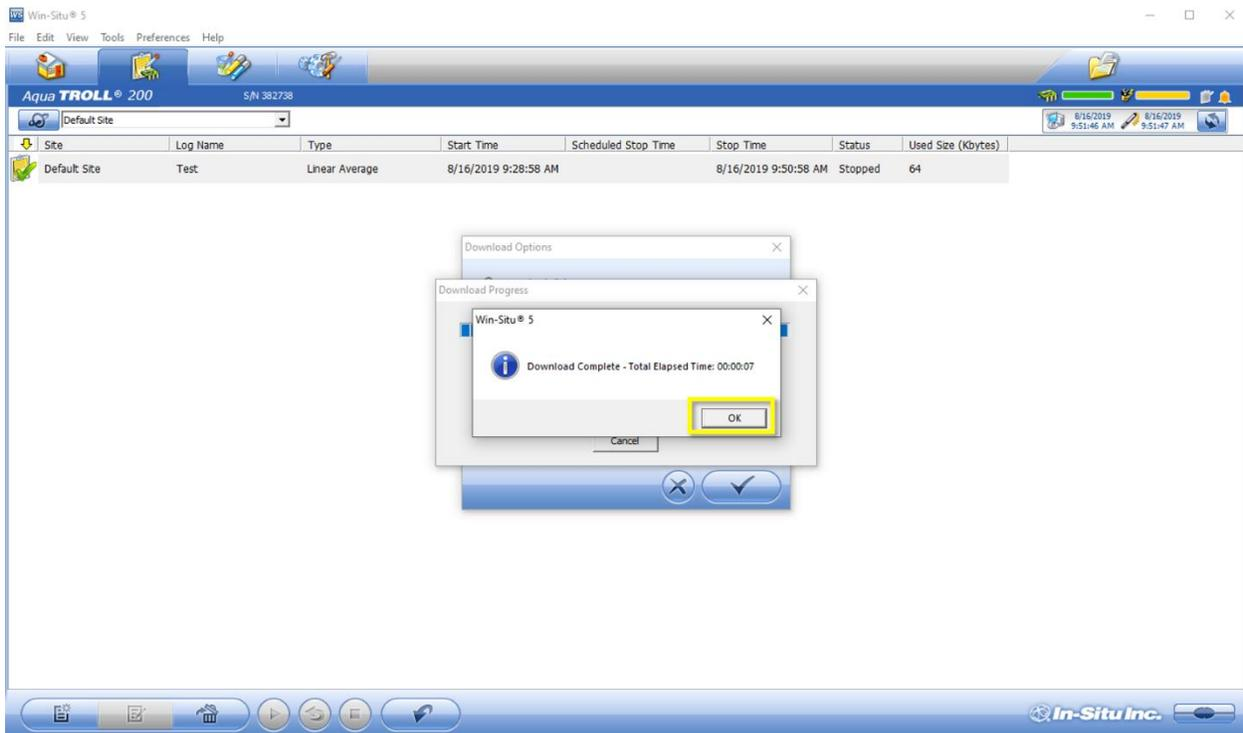

Figure 27. Click "OK" Again to Proceed
3. Once the download is complete, another pop-up window appears to confirm its completion. Click "OK" (Figure 27).